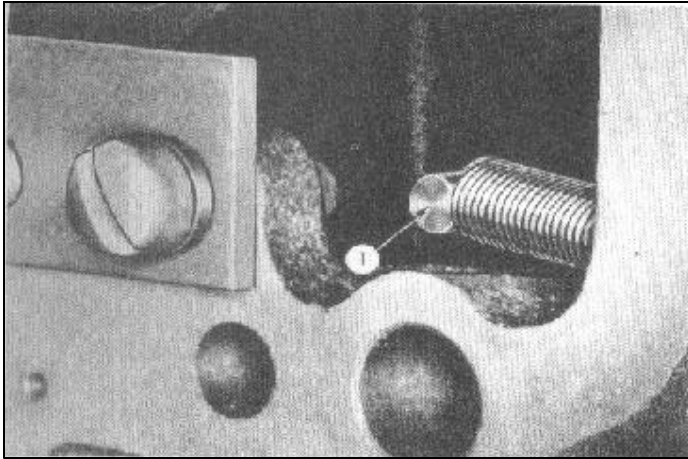
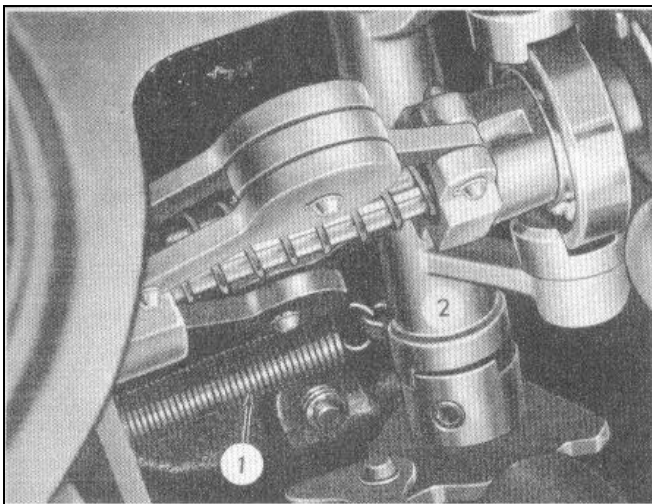

Figure 42
Figure 43
3. With the aid of needle nose pliers, unhook the end of the governor return spring from the anchor pin (1), Figure 42, and the other end of the spring from the governor control shaft yoke (2), Figure 43.
1. Hook one end of the spring on the governor control shaft yoke (2), Figure 43.
2. Hook the other end of the spring over the anchor pin (1), Figure 42. Be sure spring is firmly seated in groove of anchor pin and is positioned so as not to interfere with the case.